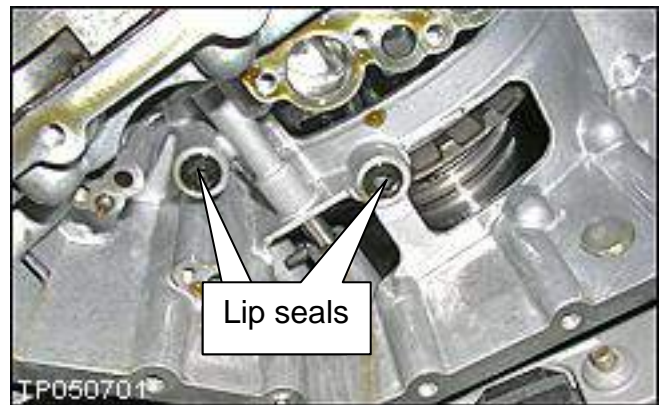

Figure 11
14. Make sure you replace the 2 lip seals shown in Figure 11.